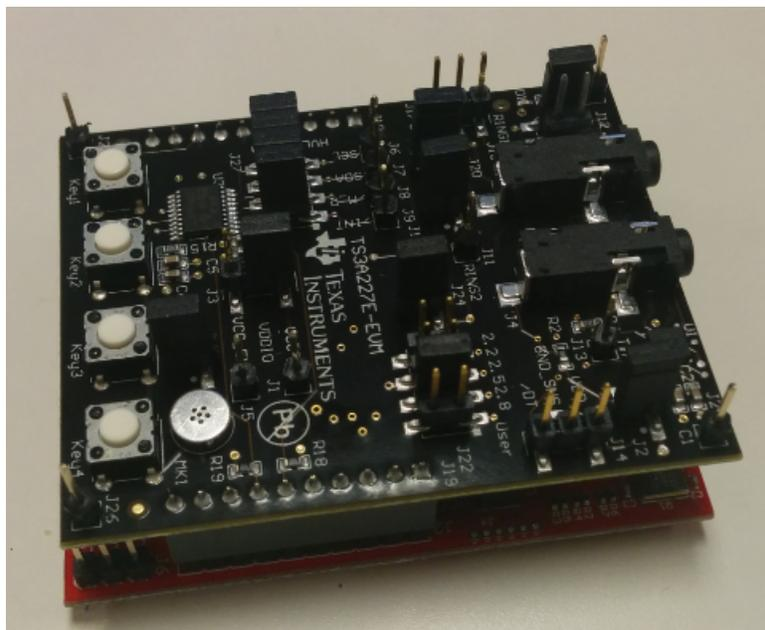

Figure 15. LaunchPad to EVM Connection
1. Connect the MSP430 LaunchPad to the EVM as shown in Figure 15. The EVM sits on top of the LaunchPad so there is minimal overlap.